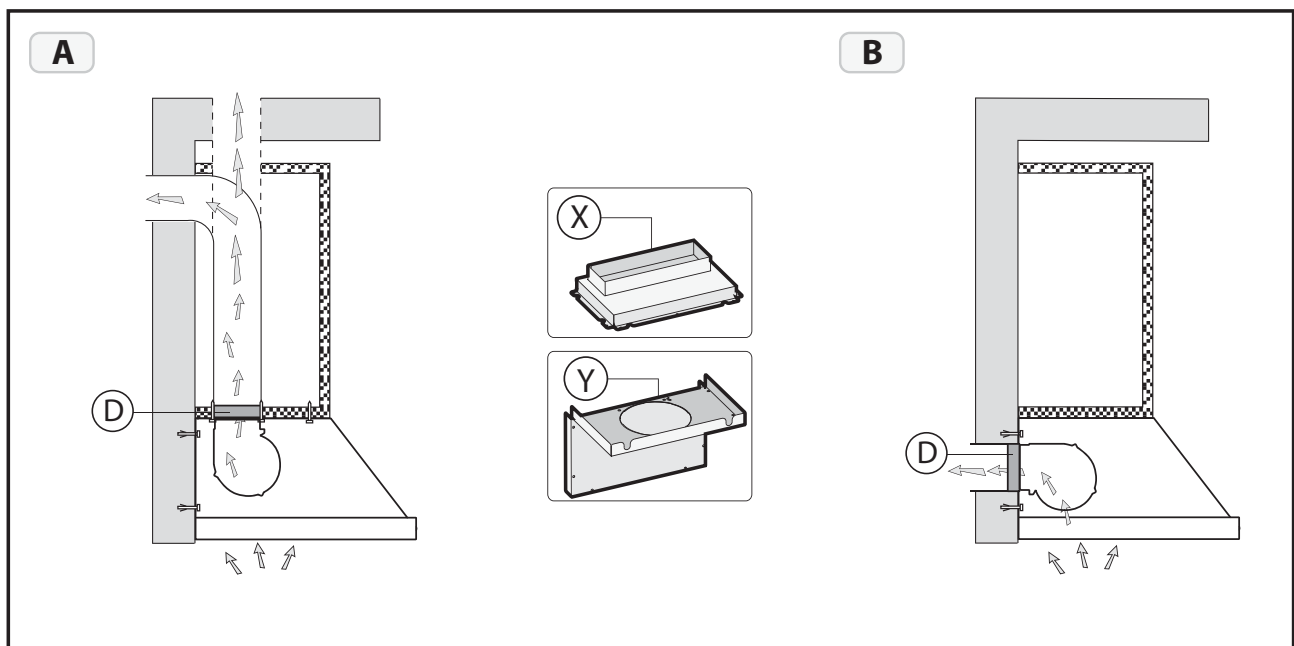

Fig.3
- The air evacuation flange is supplied with the rectangular shape **X** and circular shape **Y** (**Fig.3**).
Fig.3: Take the bracket **A** and fasten it to the hood using the 7 screws **B** (provided). Take the 2 round filters **C** and apply them onto the bracket as shown in the figure.